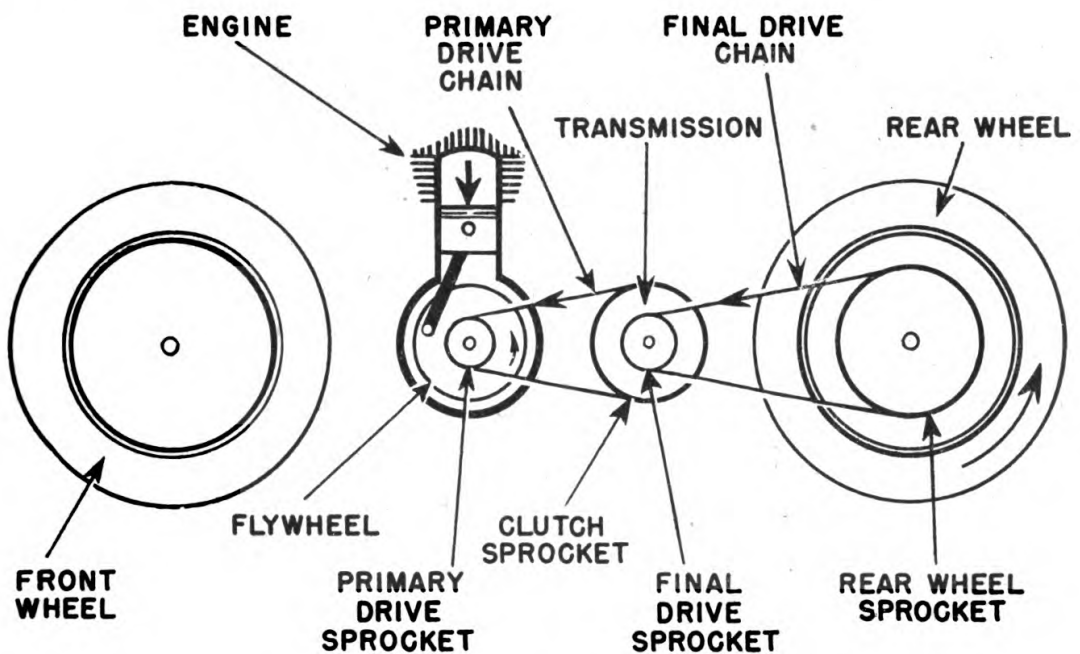

FIGURE 40.—Motorcycle power train.
**42. General.**—*a.* The power developed by the engine is transmitted to the rear wheel through a power train, which consists of a primary drive, a clutch, a transmission, and a final drive. Figure 40 illustrates the location of these units with respect to each other. The primary drive sprocket is mounted on the flywheel main shaft. When it turns, the power is transmitted by the primary drive chain to the clutch sprocket. With the clutch engaged, the power is transmitted through the clutch to the transmission and the final drive sprocket. A single-row chain connects this sprocket with the rear-wheel sprocket, thus delivering the power to the rear wheel.